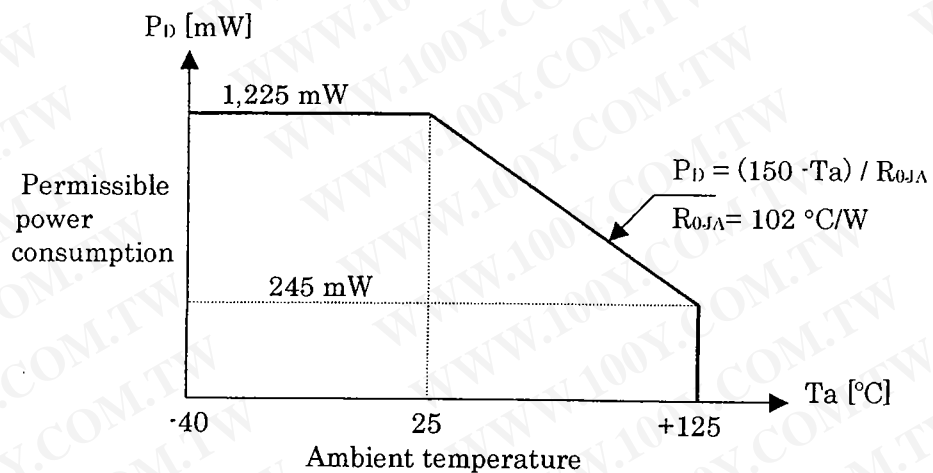

Figure 20. Power derating characteristics
- (1) Operating temperature: -40~ +125  $^{\circ}$ C within the extent shown in Figure 20.